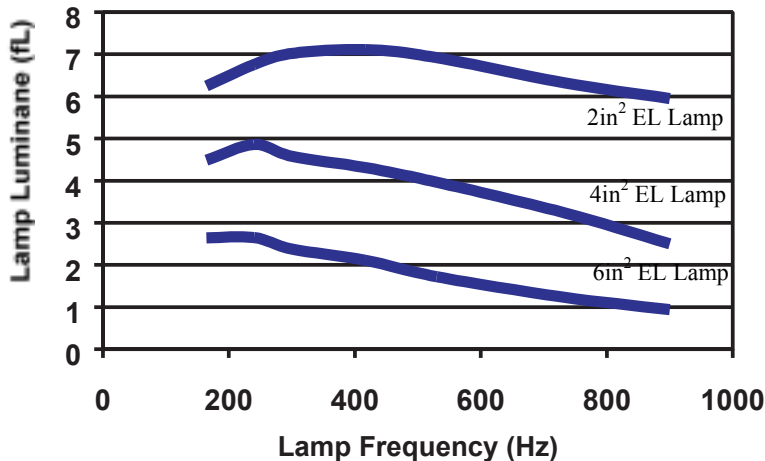

Figure 2: Typical Lamp Luminance vs. Lamp Frequency
The selection of the CLF value can also affect the brightness of the EL lamp because of its control of the lamp frequency (LF). Although input voltage and lamp size can change EL lamp frequency as well, LF mainly depends on the CLF value selected or the frequency of the input clock signal to CLF. The luminance of various sizes of Durel 3 Blue-green EL lamp driven by a D355B at $V+ = 3.0V$ using the same inductor value is shown in Figure 2 with respect to lamp frequency.